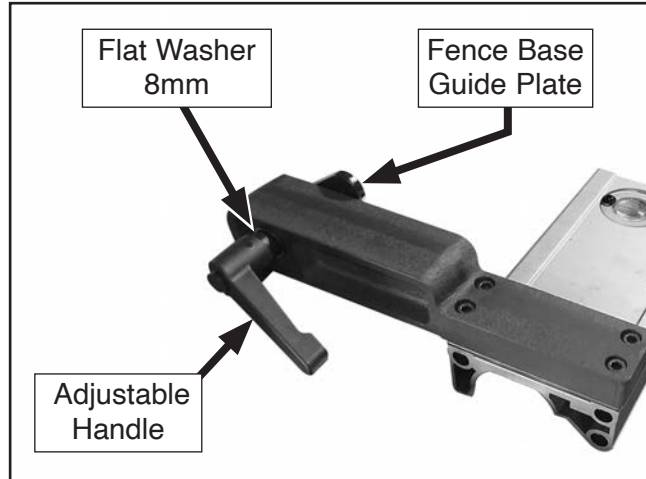
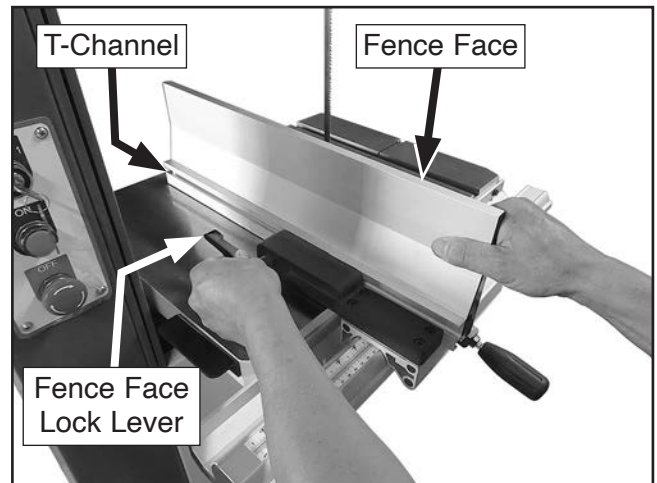

Figure 32. Fence base adjustable handle and guide plate installed.
Figure 34. Installing fence in vertical position.
11. Install adjustable handle onto fence base with (1) 8mm flat washer, and thread into fence base guide plate (see **Figure 32**).
13. Mount fence face to fence base, sliding T-channel (see **Figures 34–35**) around fence base guide plate (see **Figure 32**).
- For *normal* workpieces, mount fence in vertical position, as shown in **Figure 34**, then rotate fence base lock lever to secure.